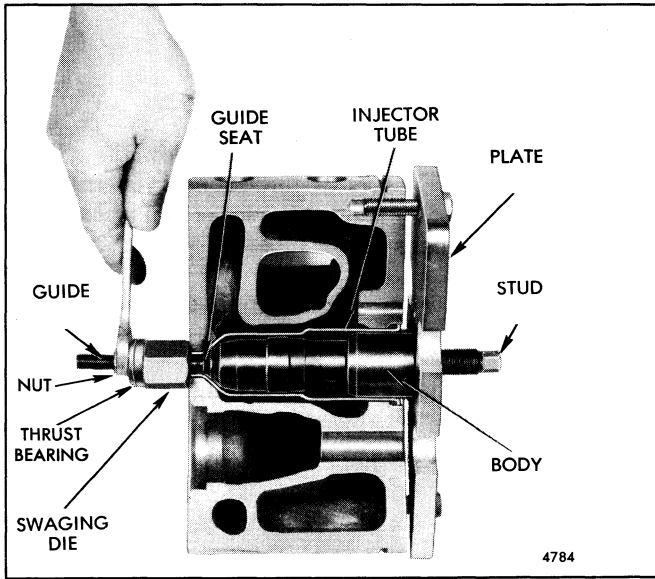

Fig. 3 - Swaging Injector Tube with Tool Set J 22342-01
- a. Refer to Fig. 3 and thread stud J 22343-15 into body J 22342-4 until the stud head is approximately 1 1/2" above the top of the body. Place the seat and guide J 22342-12 into the lower end of the body.